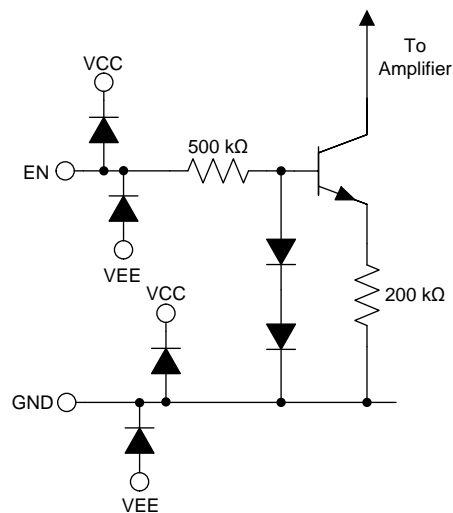

图 43. Enable Pin Simplified Internal Schematic
The enable pin (EN) of the OPA1622 is used to toggle the amplifier enabled and disabled states. The logic levels defining these two states are: $V_{EN} \leq 0.78 \text{ V}$ (shutdown mode), and $V_{EN} \geq 0.82 \text{ V}$ (enabled). These threshold levels are referenced to the device ground pin. The enable pin can be driven by a GPIO pin from the system controller, discrete logic gates, or can be connected directly to the V+ supply. Do not leave the enable pin floating because the amplifier is prevented from being enabled. Likewise, do not place GPIO pins used to control the enable pin in a high-impedance state because this placement also prevents the amplifier from being enabled. A small current flows into the enable pin when a voltage is applied. Using the simplified internal schematic shown in 图 43, use 公式 4 to estimate the enable pin current:
As illustrated in 图 43, the enable pin is protected by diodes to the amplifier power supplies. Do not connect the enable pin to voltages outside the limits defined in the Specifications section.
The inclusion of a ground pin in the OPA1622 architecture allows the internal enable circuitry to be referenced to the system ground, eliminating the need for level shifting circuitry in many applications. The internal amplifier compensation capacitors are also referenced to this pin, greatly increasing the ac PSRR. For highest performance, connect the ground pin to a low-impedance reference point with minimal noise present. As shown in 图 43, the ground pin is protected by ESD diodes to the amplifier power supplies. Do not connect the ground pin to voltages outside the limits defined in the Specifications section.